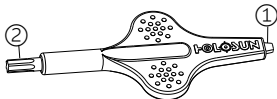

Figure 9
2. T10 Torx tool is used for product installation (See Figure 9).